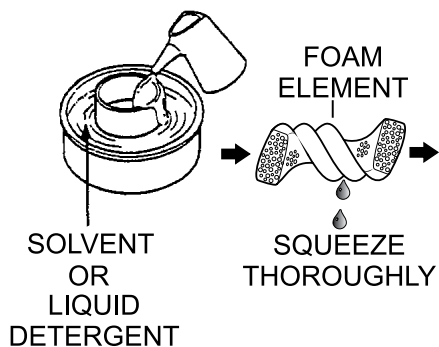

Figure 27. Cleaning Foam Element
- Clean the foam air filter (Figure 27) element in warm, soapy water, rinse and allow to dry thoroughly, or clean with a nonflammable solvent and allow to dry. **DO NOT** pour any type of oil into the foam element.